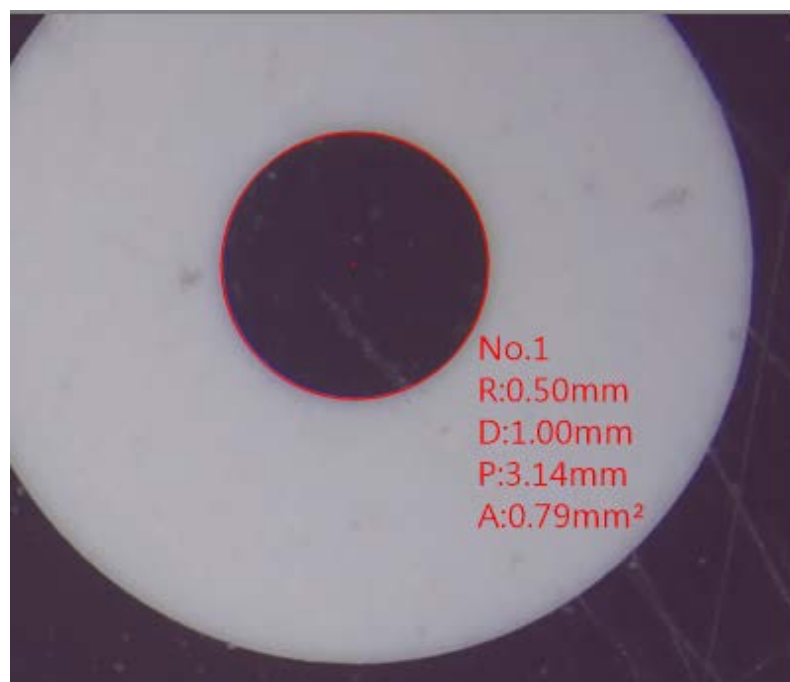

Fig 5-10 2 Point Circle
- (6) 2 Point Circle : The object is circle that can apply  tool. Click the 1st point on the edge of object, press and drag the left key of mouse toward 2nd point on the edge of object that automatically draw a circle. In the Fig. 5-10, Radius is R=0.5mm, Diameter is D=1.00 mm, Perimeter is P=3.14mm and Area is A=0.79mm².